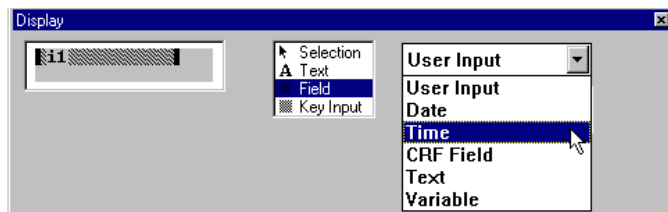

Figure 2-53 Field Pop-up Menu
- Select another option from the **Field** pop-up menu. We will select **Time** in this example (Figure 2-53).